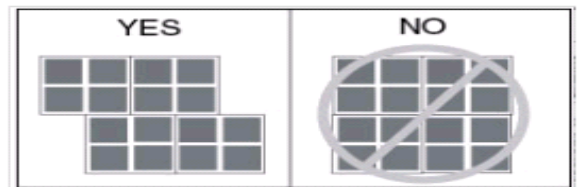

Fig. 11
9. Begin the second row of planks with the piece cut from the last piece in the first row. If the piece is shorter than 8" (20.32 cm), cut a new plank in half and use it to begin the second row. Whenever practical, use the piece cut from the preceding row to start the next row. End joints of all boards should be staggered 8" (20.32 cm) or more. Grout lines on planks with tile visuals can be aligned, or off-set as long as end joints are staggered (Fig. 11).